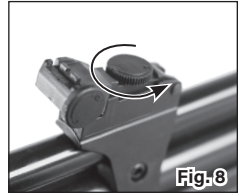

Fig. 8
1. Remove the elevation adjustment knob by rotating it counter-clockwise (Fig. 8).